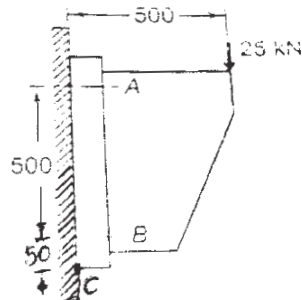

Figure 4. Wall bracket arrangement
- b) A wall bracket is attached to the wall by means of four identical bolts, two at A and two at B, as shown in Figure 4. Assuming that the bracket is held against the wall and prevented from tipping about the point C by all four bolts and using an allowable tensile stress in the bolts as 35 N/mm^2 , determine the size of bolts on the basis of maximum principal stress theory. [10]